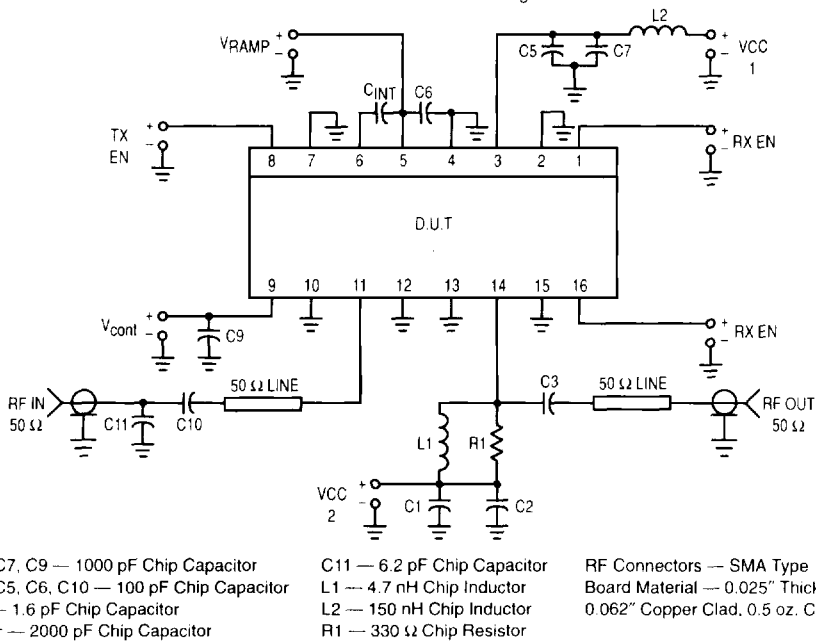

Figure 1. Typical Biasing Configuration
- All electrical characteristics measured in test circuit schematic shown in Figure 1 below.